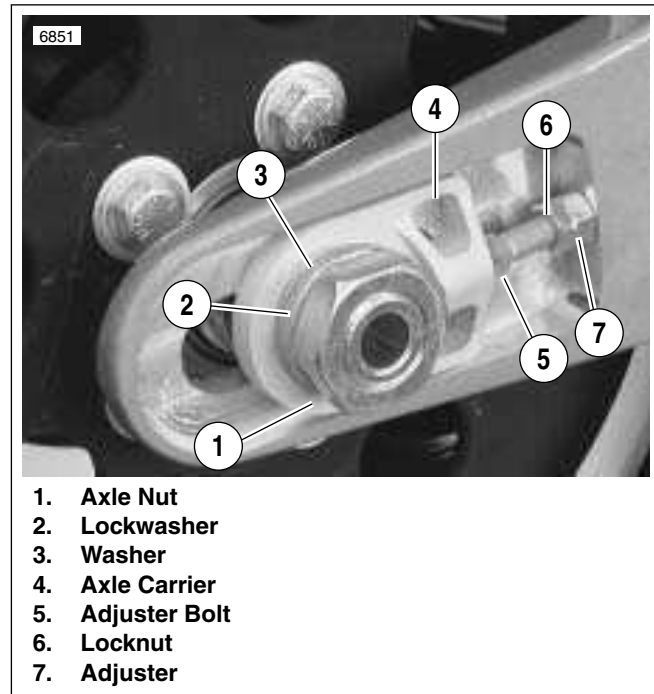
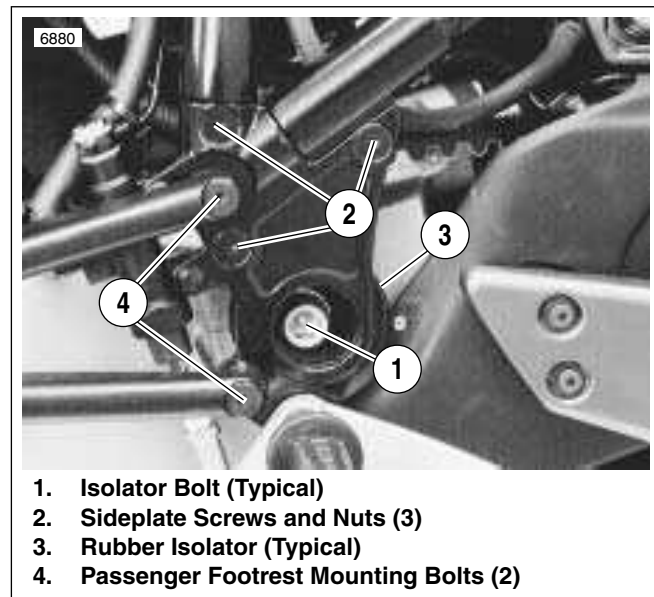

Figure 6-6. Rear Axle, Right Side
Figure 6-7. Sideplate (Typical)
7. See Figure 6-6. Remove rear wheel.
- a. Remove rear axle nut (1) (metric), lockwasher (2), washer (3) and right side axle carrier (4).
- b. Hold axle adjuster bolt (5) with a 5/16 in. wrench. Loosen locknut (6) and axle adjusters (7). Repeat on left side.
8. See Figure 6-7. Remove right isolator TORX bolt (1) and and isolator (3). See 2.20 REAR ISOLATORS.
6. See Figure 6-7. Install sideplate and right side passenger footrest mount.
- a. Tighten sideplate screws (2) to 19 ft-lbs (26 Nm).
- b. Tighten footrest mount bolts (4) to 10-15 ft-lbs (14-20 Nm).